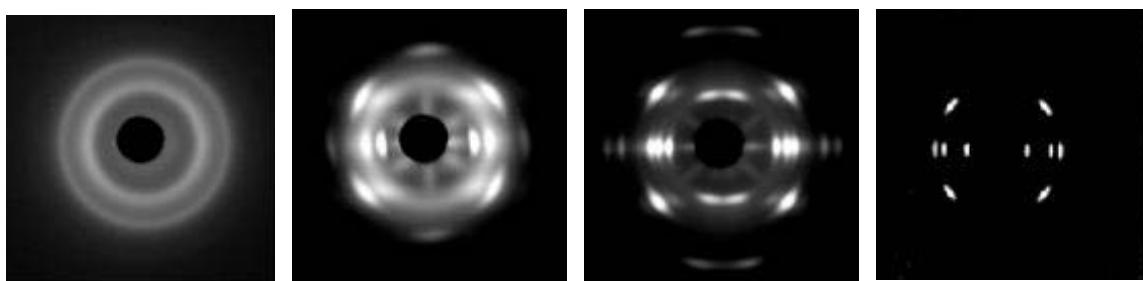

Figure 1 - Changes in X-ray diffraction patterns for a polymer sample
5. [a] Figure 1 displays changes of X-ray diffraction patterns for a certain polymer sample. Discuss what could have caused such changes.